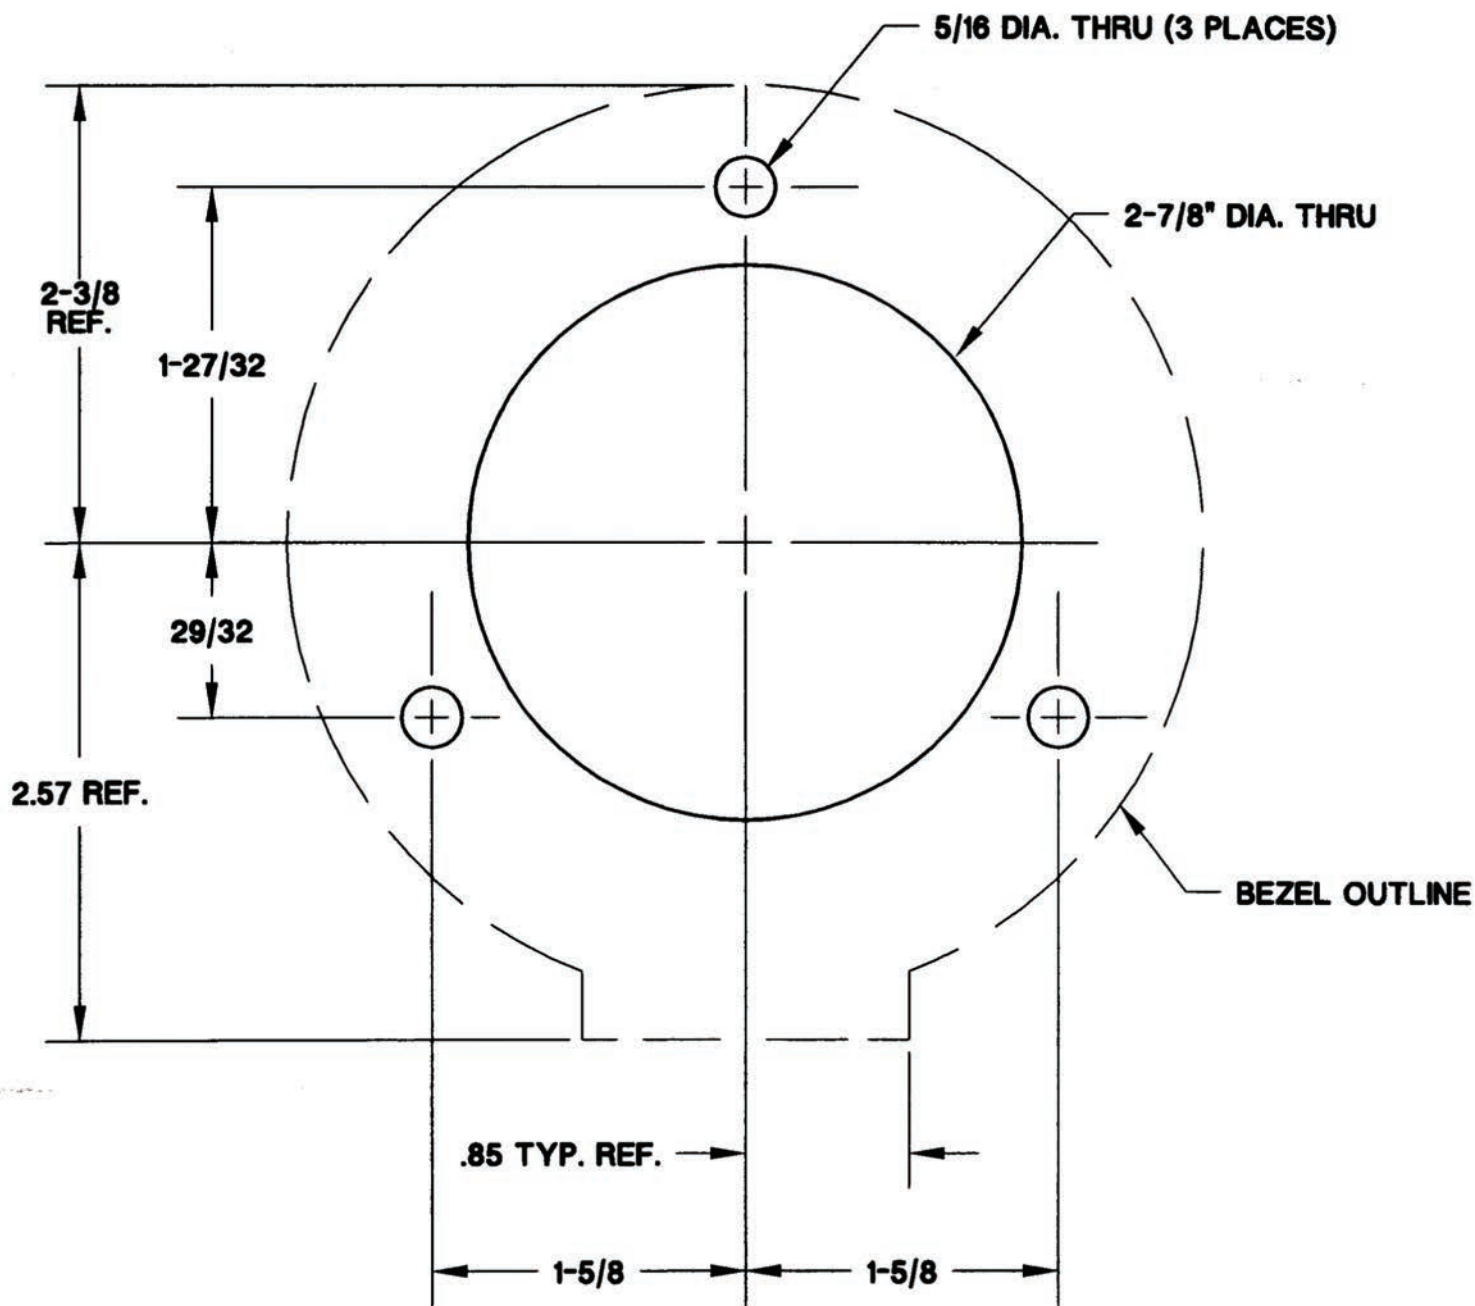

Figure 7.
**STEP 2.** Position the template (figure 7) on the console or dashboard at the location previously marked, and drill three holes 5/16" diameter and one hole 2-7/8" diameter.